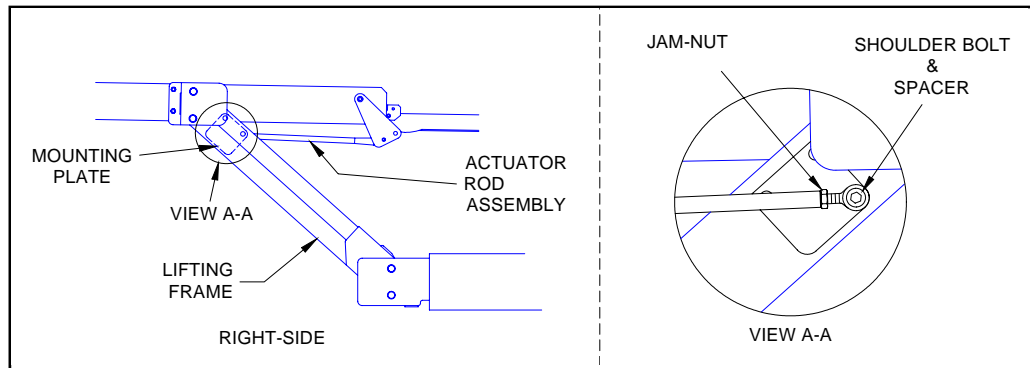

FIGURE 4-12: BRIDGEPLATE ACTUATOR ROD REMOVAL
- e. Refer to **Figure 4-12**. View A-A is from beneath platform. Locate right-side actuator rod assembly (right-hand side of platform, at top of lifting frame). Loosen rod-end jam-nut.